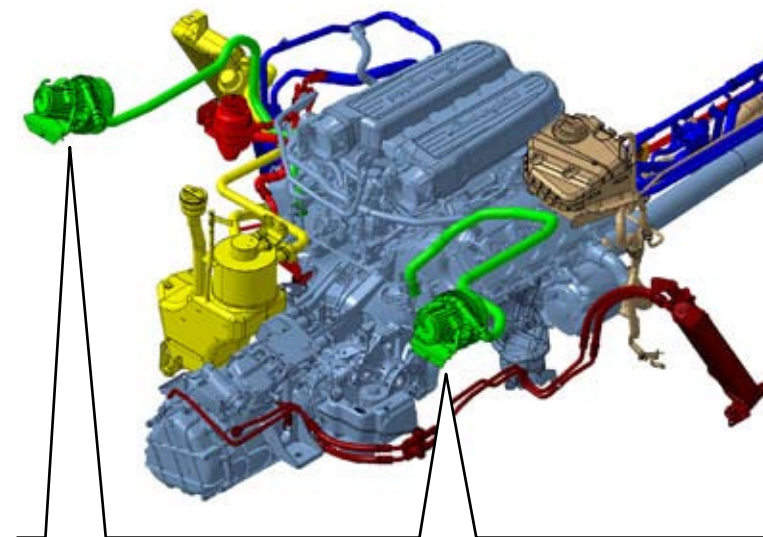

Fig.16
1. Connect the pipe (**A-Fig.16**) which goes from the pump to the exhaust manifold.
2. Tighten the 3 screws (**B-Fig.16**) securing the secondary air pump mounting bracket to the chassis.
3. Connect the electric connector (**C-Fig.16**) on the secondary air pump.